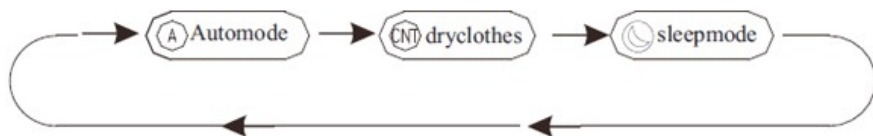

Figure 3
The switch (3) operation order is shown by Figure 3.